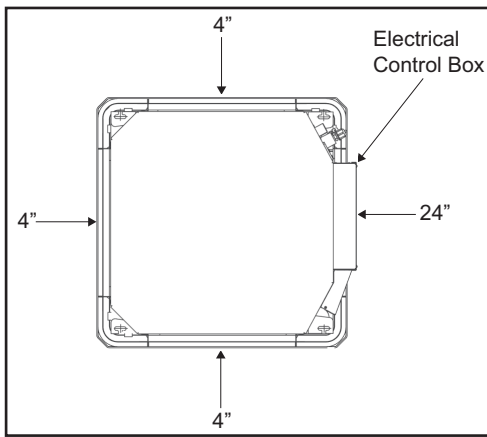

Fig. 5 —Recommended Service Clearance
- Proper access (recommended 24") should be provided for maintenance for refrigerant piping, EEV (electronic expansion valve), electrical box, and condensate pump. See Fig. 5.